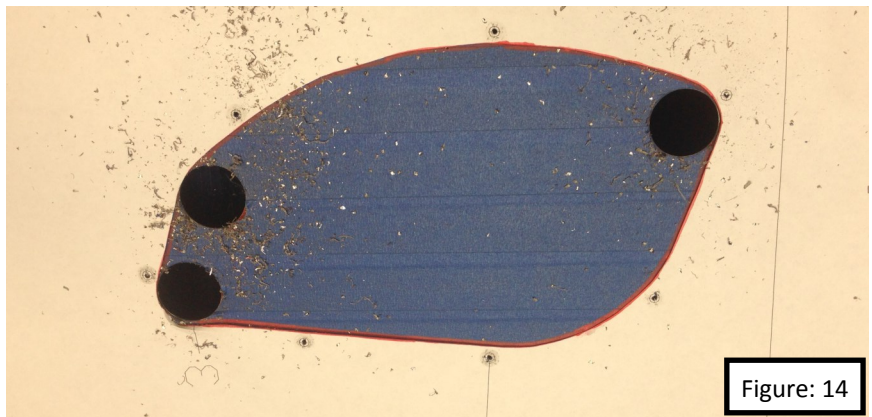

Figure: 14
18. Open up the three (3) holes located in the interior of the vent. Use the 1-1/4" hole saw for this operation. Figure: 14